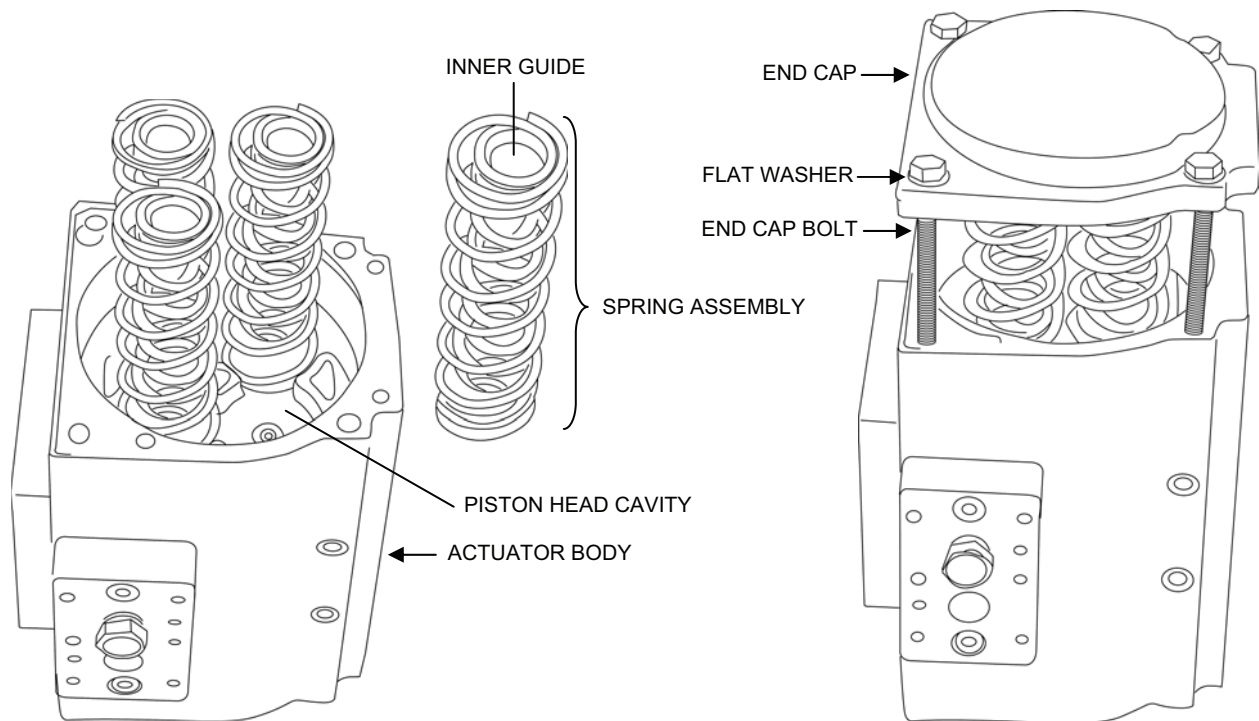

Figure 23. End Cap Assembly.
- i. Assemble the springs and end caps to the actuator body as follows (see Figure 23):
- l. Position the plate on the actuator body with the silencer to the left and secure the plate using the two cap head bolts and washers (see Figure 23).